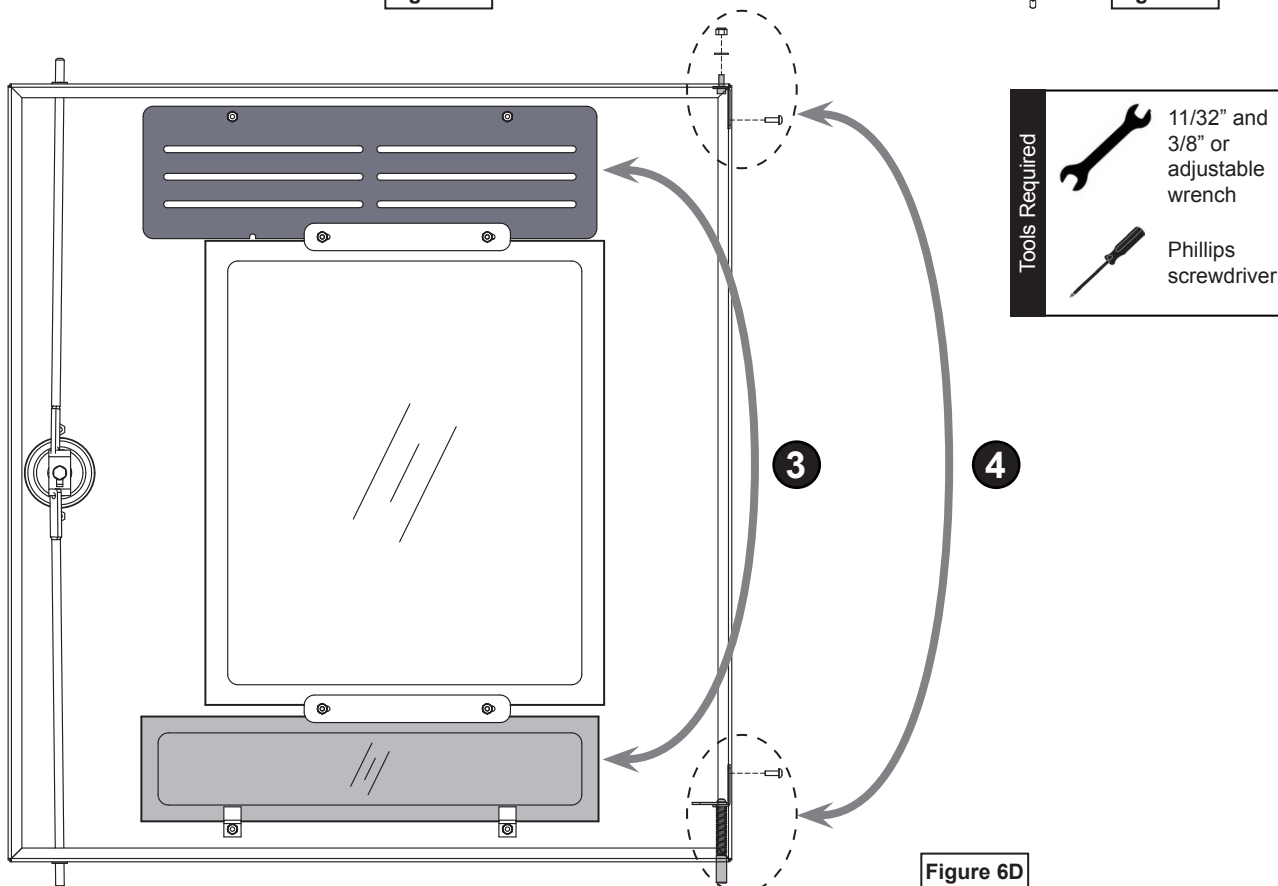

Figure 6D
3. The vented panel should be located on the bottom of the door. Switch the lower vented metal panel with the upper acrylic panel (requires removing or loosening 8-32 nuts.) **Figure 6D.**